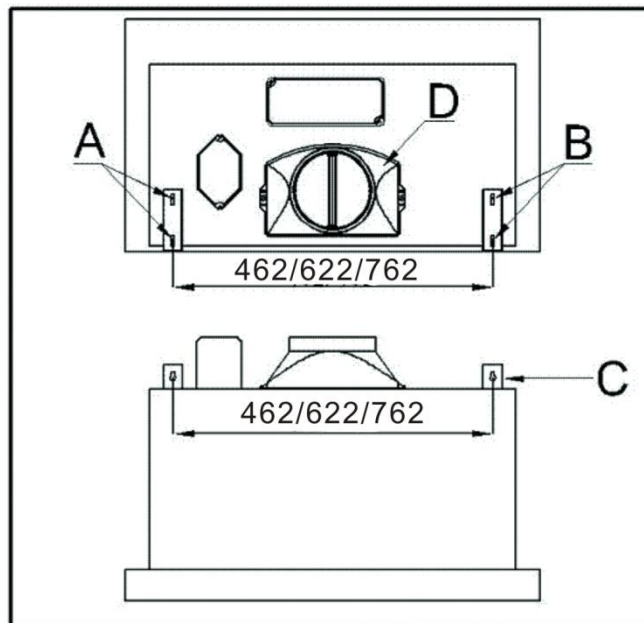

Fig 2
3. Drill two $\phi 8$ holes in the wall according to point C. (Fig.2)
4. Place the hook in the point A point B and fasten it with ST4X10 cross recess head screw. (Fig.2)